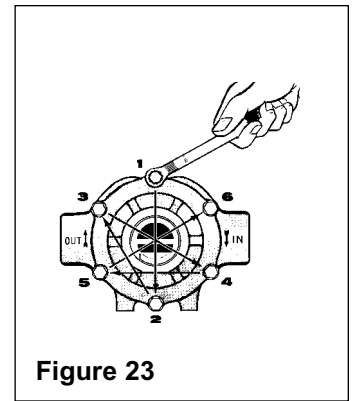

Figure 23
3. Turn pump over; line up bolt holes and replace assembly bolts. Alternately and evenly tighten the bolts as shown (Figure 23). **NOTE:** After bolts have been tightened, check to see if rotor is centered in pump case. Try to turn the pump shaft, using a crescent wrench on the shaft as a lever.